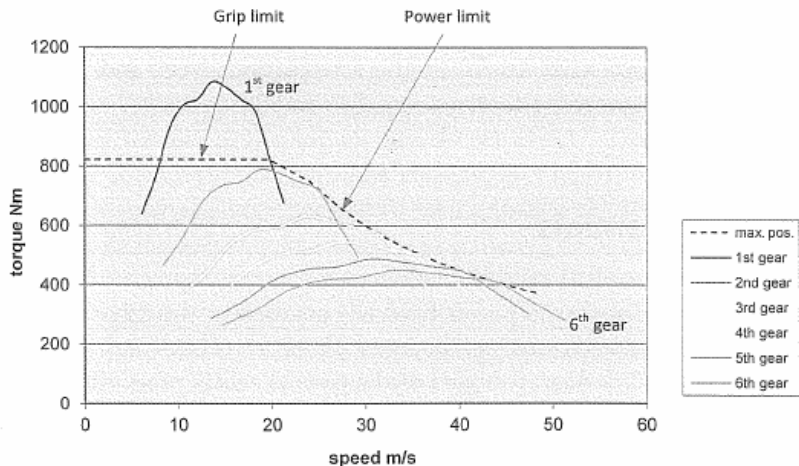

Figura: 7.5: Torque disponível nas rodas em cada marcha.
4. *Figure 7.5* reinforces the previous suggestion that the 'short' first gear, in this example, means that the driver must take the car close to the rpm limit before changing up to second. Also these ratios clearly close-up in the higher gears indicating that this particular car is good for racing at speeds around 42 m/s (150 km/h), where close to maximum torque is available in 4th, 5th and 6th gears.
5. The maximum speed in 6th gear in *Figure 7.5* is about 52 m/s (190 km/h). FSAE/Formula Student cars reach a maximum speed of around 35 m/s (125 km/h) in the acceleration event and hence it is common to ignore (or even remove) 5th and 6th gears.